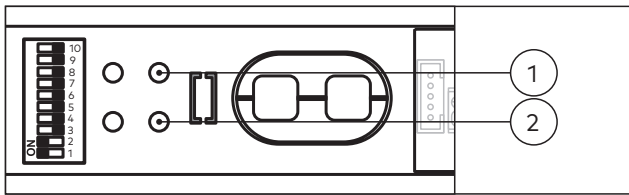

Fig. 29 Set the speed and the hold-open time
1. Set the speed on the speed potentiometer (Fig. 29) (1). Set the speed to the same value for both drives so that travel is synchronized.
2. Set the required hold-open time on the potentiometer on one of the drives (Fig. 29) (2).